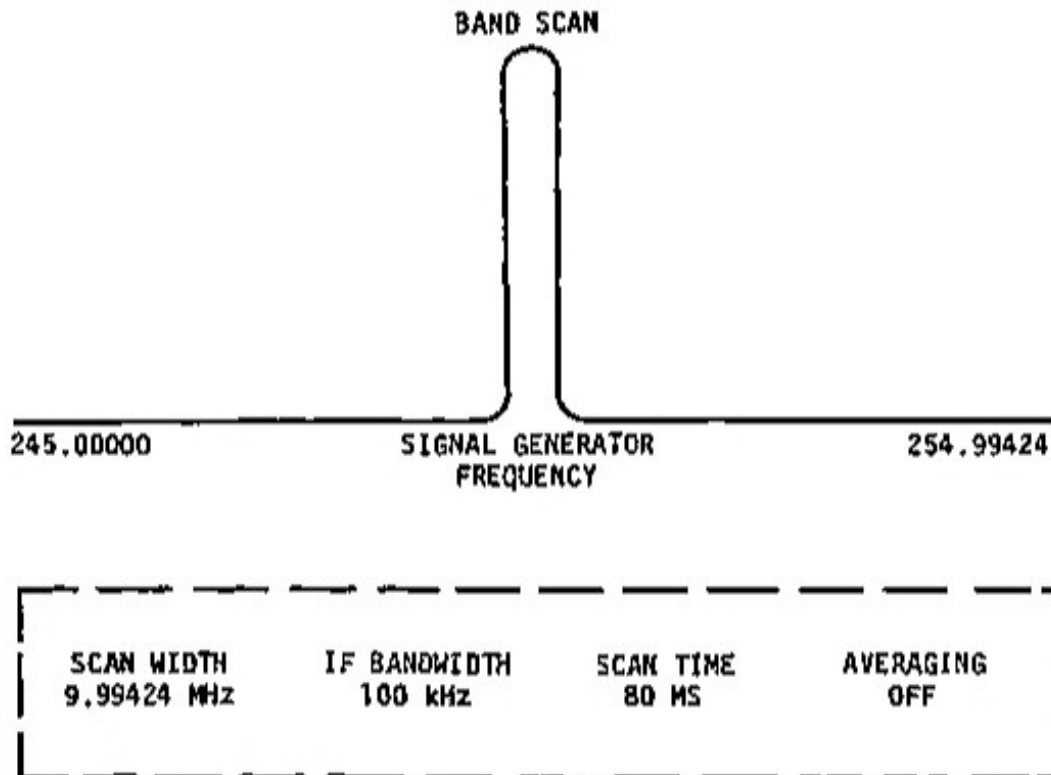

Figure 5-9. Band Scan Display
6. Set up Spectrum Surveillance Controller front panel controls to obtain a display as shown in Figure 5-9 as follows: